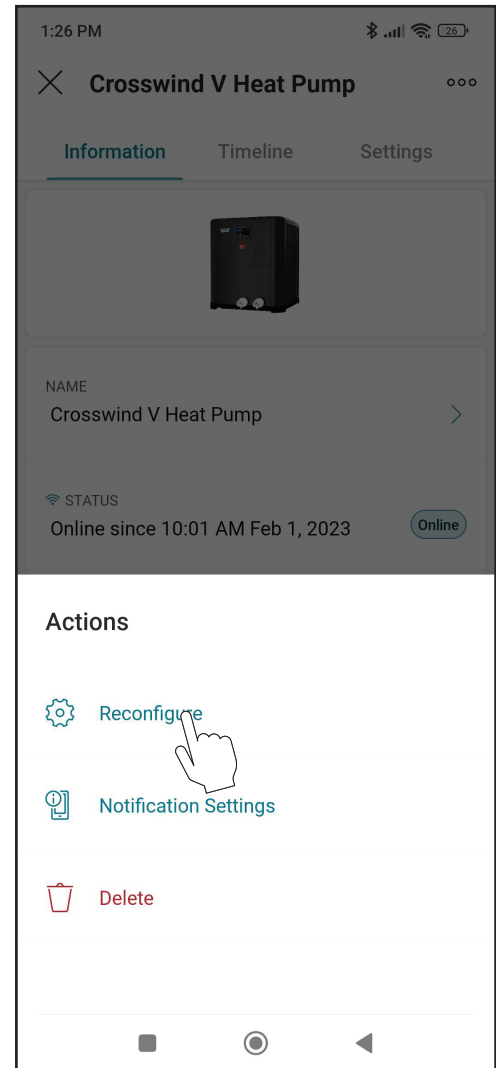

Figure 100. Select Reconfigure
3. Click in the 3-dots icon again. The action menu is displayed. In “Actions” menu, select the option “Reconfigure” as shown in Figure 100.